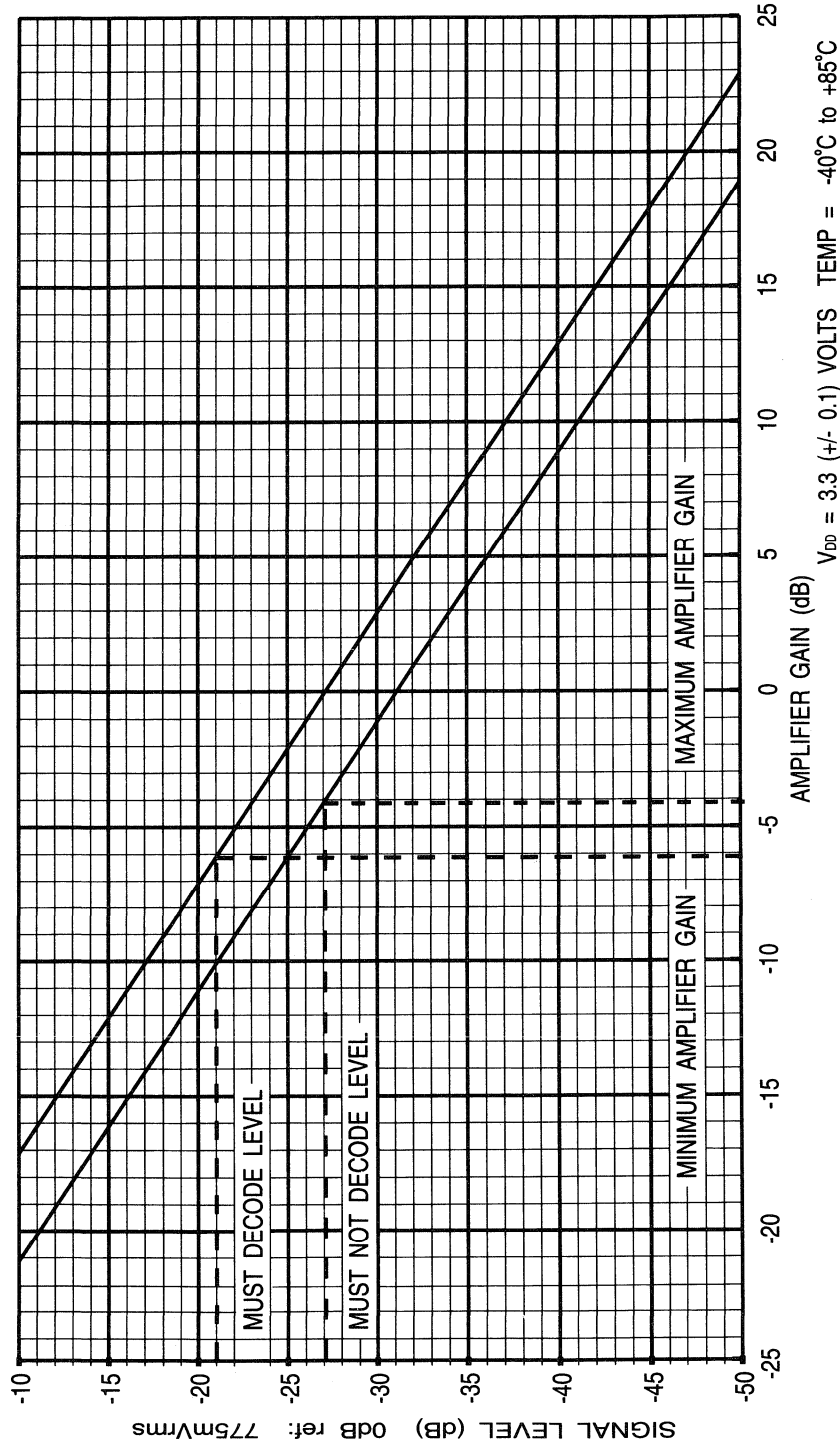

Fig. 4 Input Gain Calculation Graph
10	Signal In (-) : adjusting signal amplifier. Refer to the graph in Figure 4 for guidance on setting level sensitivities to national specifications, and the selection of gain adjusting components.
1. The values of the Input Amp gain components illustrated are calculated using the Input Gain Calculation Graph (Figure 4). Whilst calculating input gain components, for correct operation, it is recommended that the values of resistors R1 and R4 are always greater than, or equal to, 100kΩ.
With reference to the graph in Figure 4, the following steps will assist in the determination of the required gain/attenuation.
It is recommended that the designed gain is near the centre of the calculated range. The graph in Figure 4 is for the calculation of input gain components for an FX631 using a  $V_{DD}$  of 3.3 ( $\pm 0.1$ ) volts.